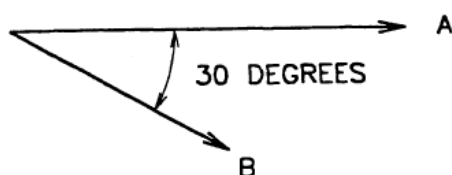

Figure 11 - A phasor representation of two out of phase values
29. A phasor is a straight line arrow which represents the magnitude and direction of a sinusoidal voltage or current. The relationship between two sinusoidal waves which are of the same frequency, but out of phase, can be shown using two phasors as shown in Figure 11.